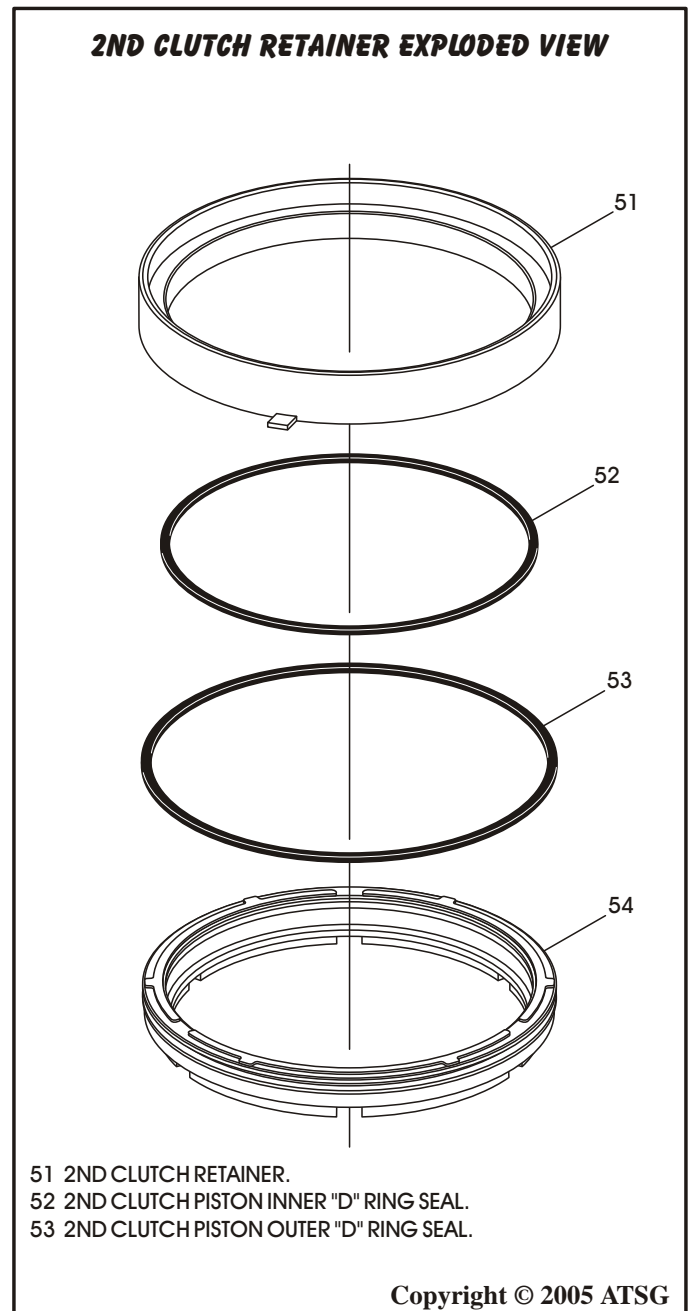

Figure 105
1. Disassemble the 2nd clutch retainer assembly using Figure 105 as a guide.
2. Remove and discard inner and outer "D" ring seal from the piston, as shown in Figure 105.